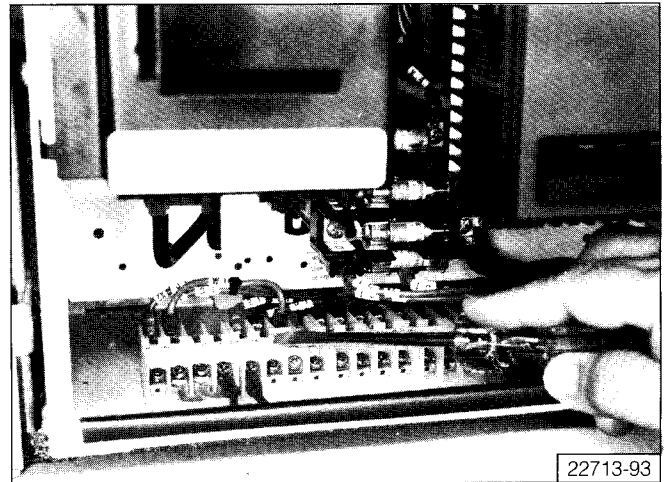

Figure 22A: Separate Pull Apart Terminal Blocks
6. Separate pull apart terminals, or disconnect wires from terminal blocks. Tag and secure disconnected wires within the motor control center wireway. To separate pull apart terminal blocks, insert a flat head screw driver under locking tab and push non-stationary portion of the terminal block toward the rear as shown in **Figure 22A**.